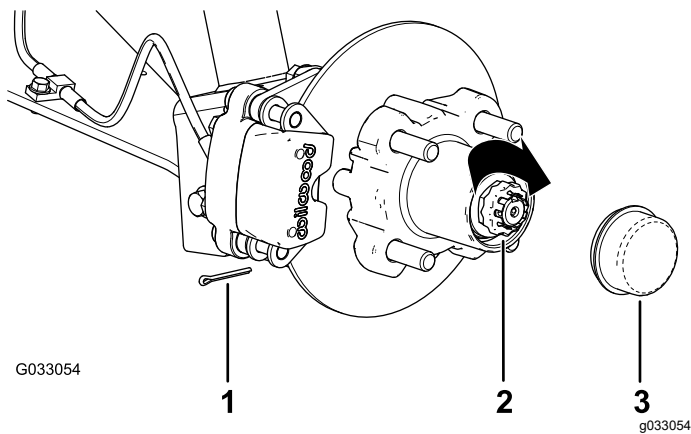

Figure 27
8. Install the retainer over the nut and check the alignment of the slot in the retainer and the hole in the spindle for the cotter pin (Figure 27).
9. Install the cotter pin and bend each legs around the retainer (Figure 27).
10. Install the dust cap onto the hub (Figure 27).